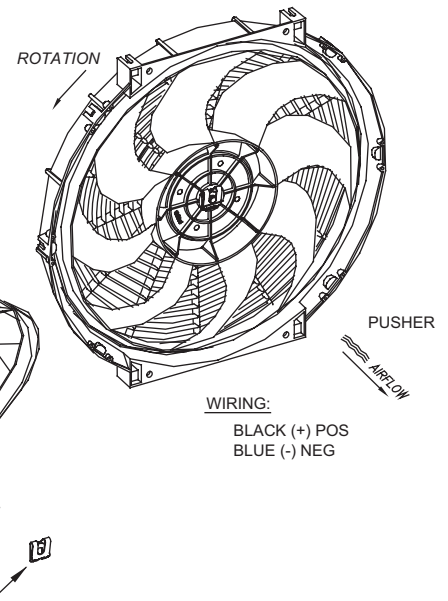

FIGURE 5
3. After seating blade, replace clip. Pusher configuration should look as shown in figure 5. Note: Fan wiring changes to black (+) POS and Blue (-) NEG.